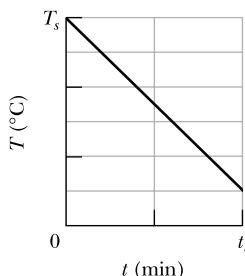

Figure 18.29 Problem 71.
**71** A  $0.300 \text{ kg}$  sample is placed in a cooling apparatus that removes energy as heat at a constant rate of  $2.81 \text{ W}$ . Figure 18.29 gives the temperature  $T$  of the sample versus time  $t$ . The